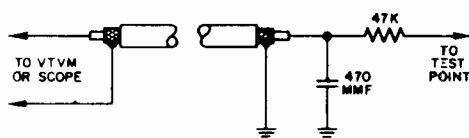

Figure 9 - VHF Decoupling Network.
**Oscilloscope and VTVM** - Use a low-capacitance direct probe terminated with the decoupling network shown in Figure 9. Keep the oscilloscope calibrated for 2 volts peak to peak (P-P). Use a VTVM range suitable for measuring -1.5 volts.